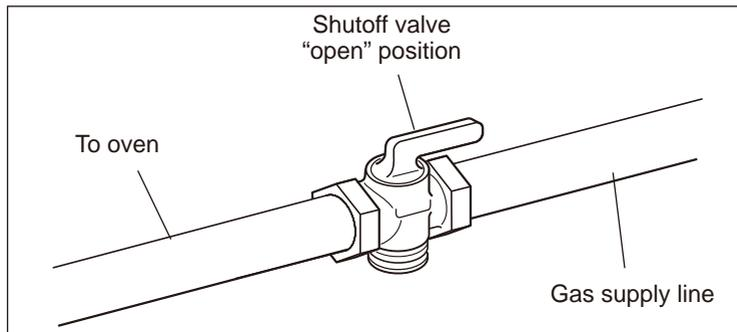

Fig.14
1. Manual Shut-off Valve (Fig.14):